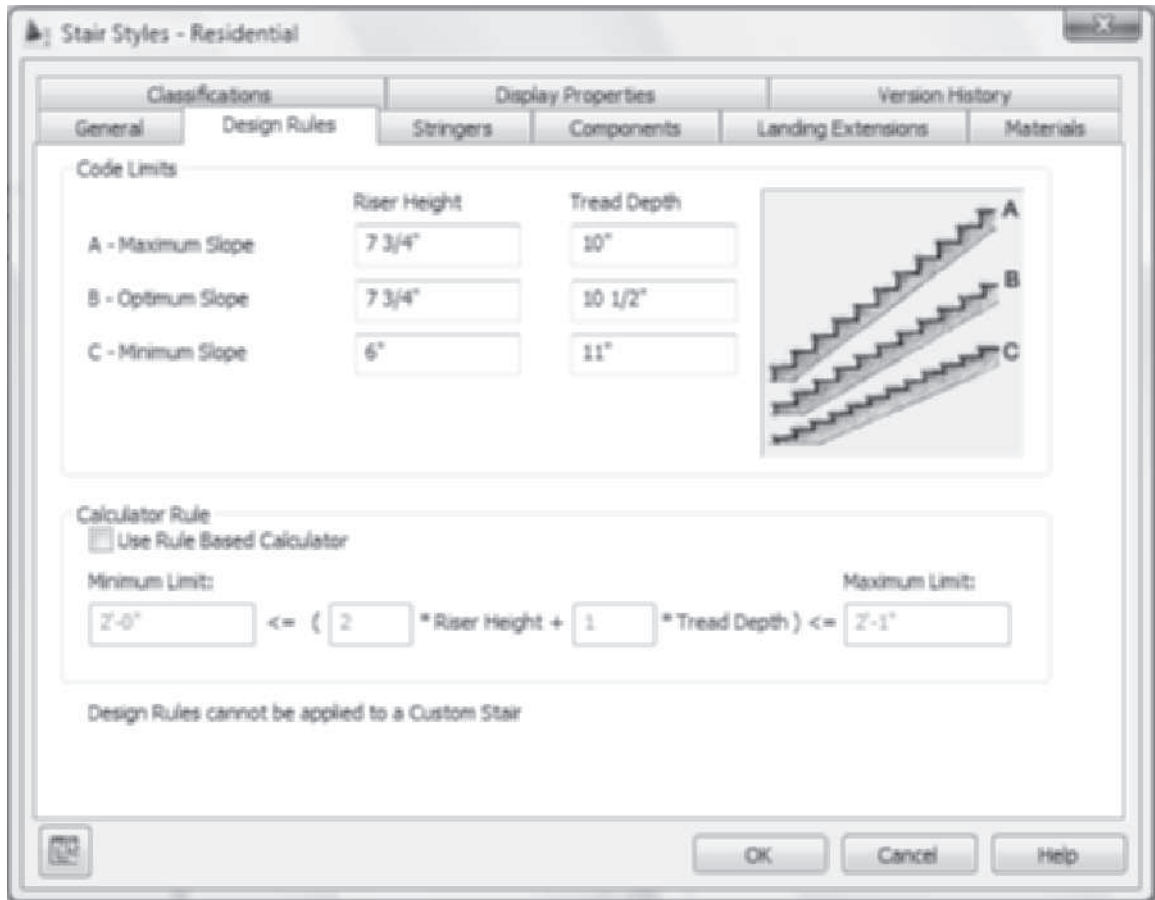

FIGURE 9.38 Design Rules tab of the Stair Styles – Residential dialog box
4. Select the stair and choose **Copy Style** from the **General** panel to open the **Stair Styles—Standard (2)** dialog box. Choose the **General** tab and edit the name to **Residential**.
5. Select the **Design Rules** tab, as shown in Figure 9.38, and edit as follows: